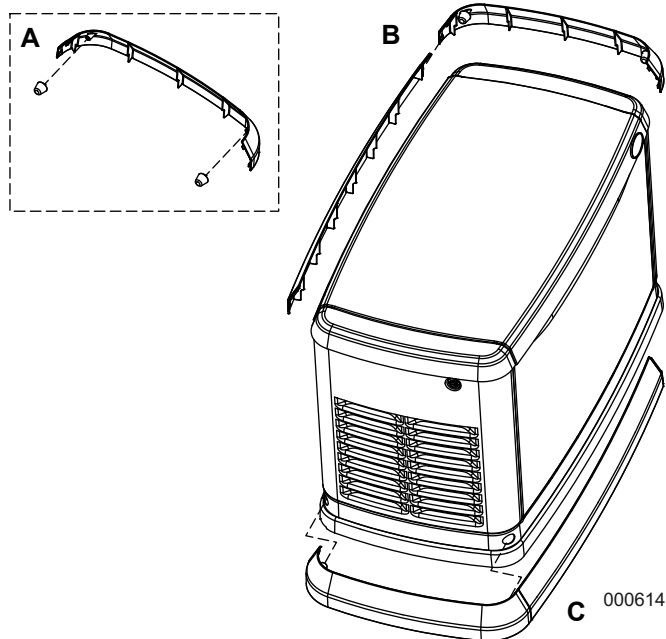

Figure 4-3. Fascia Installation
- Locate the four (4) threaded black rubber bumpers located in the Owner's Manual bag.
- See Figure 4-3. Remove the four (4) bumpers from the bag and screw them into threaded holes located inside the end pieces of the fascia (two each) opposite one another (A).